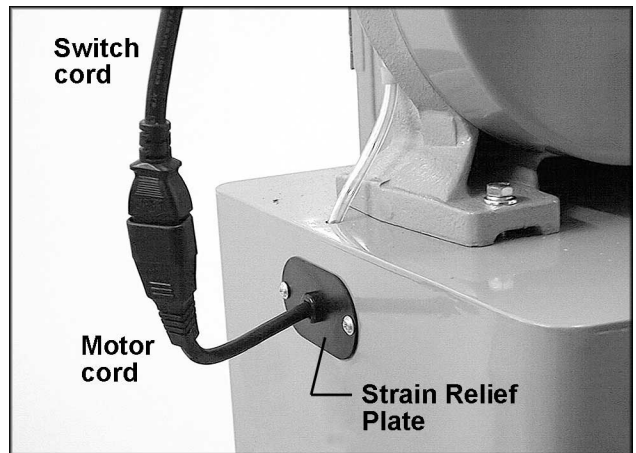

Fig. 3
- Push motor cord and strain relief plate through the opening in the side of the stand. Fasten the strain relief plate to the stand with two M5 x 12 pan head screws as shown in Fig. 3.
- Connect the plugs of the switch cord and motor cord (Fig. 3). **Do not connect machine to power source during assembly.**